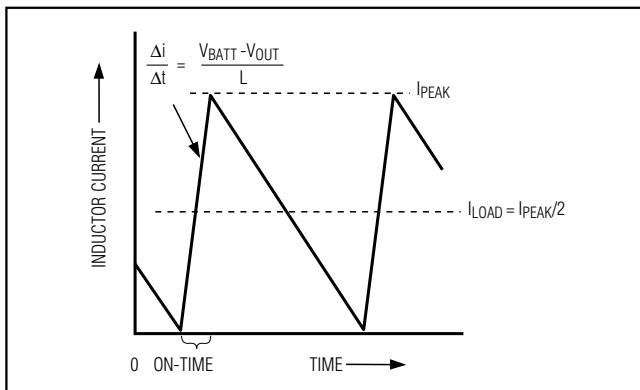

Figure 4. Pulse-Skipping/Discontinuous Crossover Point
where K is the on-time scale factor (Table 4). The load-current level at which PFM/PWM crossover occurs, $I_{LOAD(SKIP)}$, is equal to 1/2 the peak-to-peak ripple current, which is a function of the inductor value (Figure 4). For example, in the standard application circuit with $V_{OUT1} = 2.5V$, $V_{IN} = 15V$, and $K = 2.96\mu s$ (Table 4), switchover to pulse-skipping operation occurs at $I_{LOAD} = 0.7A$ or about 1/6 full load. The crossover point occurs at an even lower value if a swinging (soft-saturation) inductor is used.
- 1) Determine the minimum (valley) inductor current ($I_{L(MIN)}$) under conditions when V_{IN} is small, V_{OUT} is large, and load current is maximum. The minimum inductor current is I_{LOAD} minus half the ripple current (Figure 4).